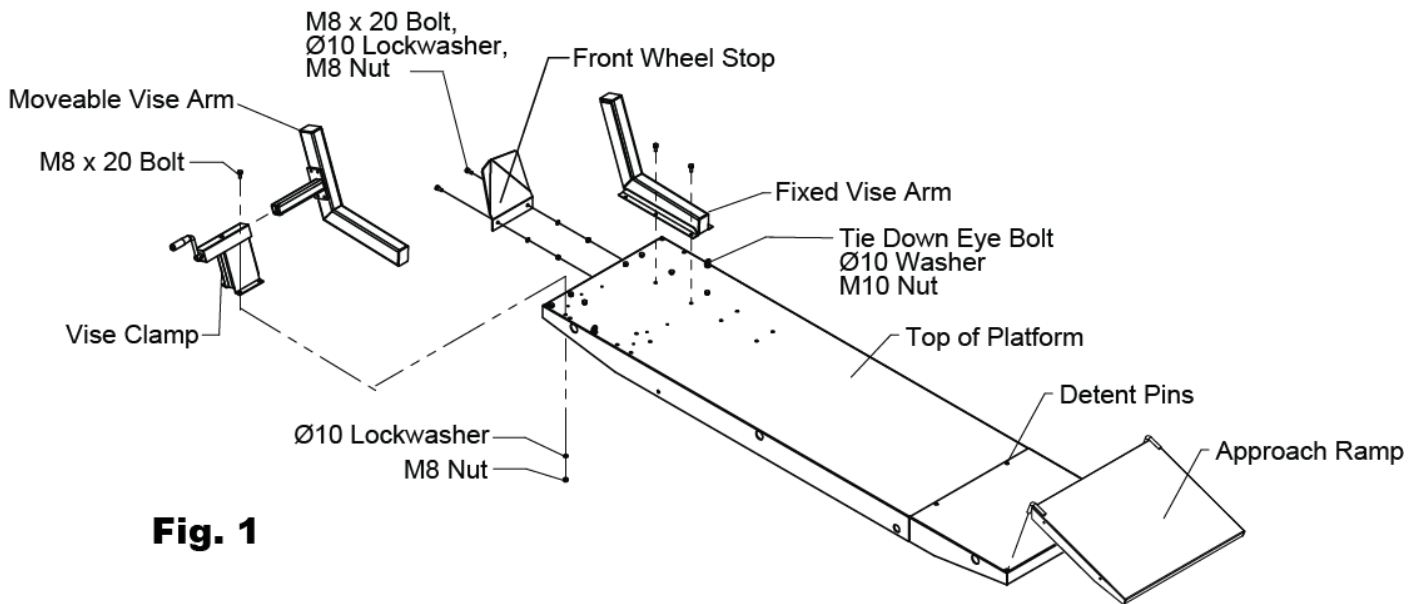

Fig. 1
- Step 6** To install the vise refer to Fig. 1:
a. Install the vise clamp using (4) M8 x 20 bolts, lock washers, and nuts.
c. Install the fixed vise arm using (6) M8 x 20 bolts, lock washers, and nuts.
- Step 7** Install wheel stop as shown in Fig. 1 using M8 x 20 bolts, lock washers, and nuts.
- Step 8** Install tie down eyelets as shown in Fig. 1 using M10 eyebolts, washers, and nuts.